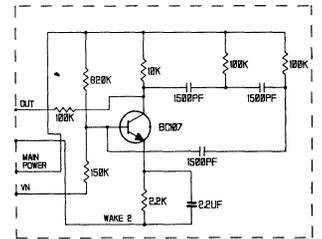

Fig. 20 SINE-WAVE OSC
- Option 2 (Fig 20) Sine wave generation independent of radio